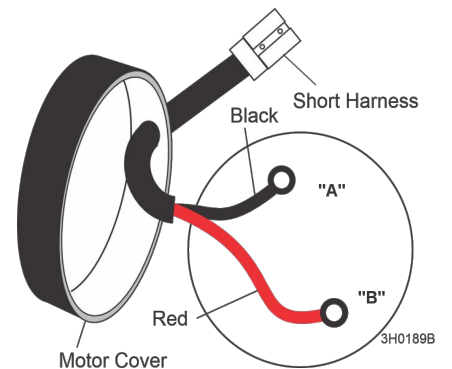

FIG. 1-8
7. If applicable, place the short harness cable through the motor end cap grommet. **See Fig. 1-8.**